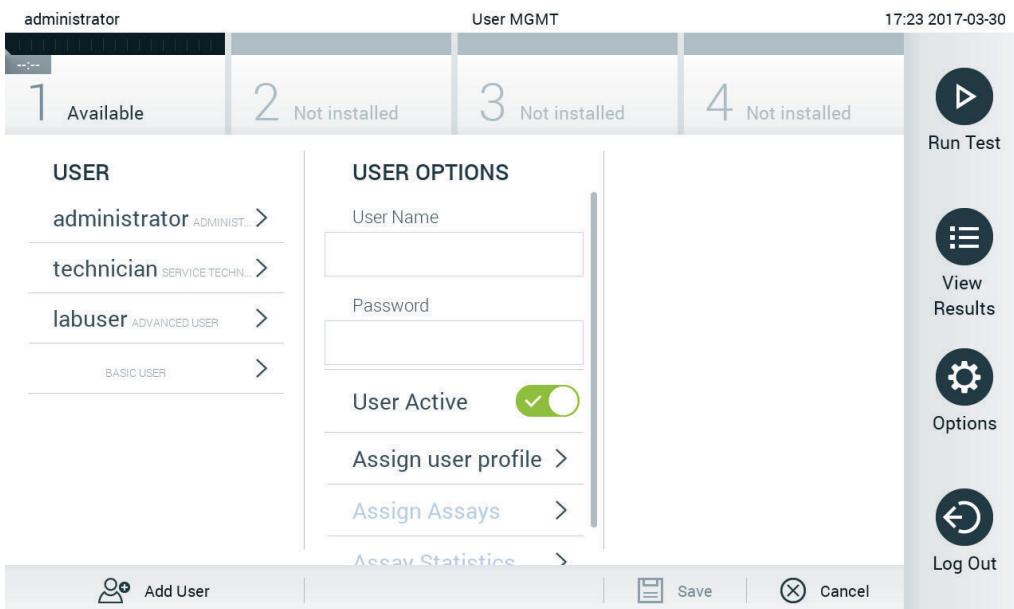

Figure 63. Adding a new user.
1. Press the **Options** button and then the **User Management** button to configure users. The **User Management** screen appears in the content area of the display (Figure 63).